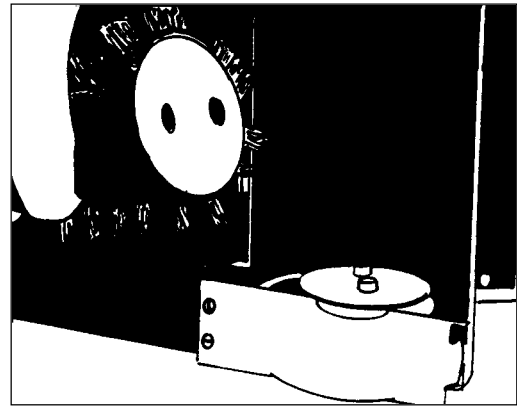

Figure 18
1. Put the two pins on the brush housing plate in the two holes in the brush end plate. See figure 18